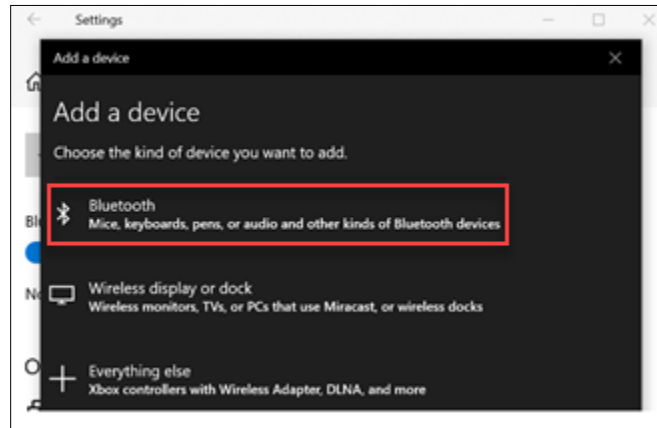

Figure 14: Select Bluetooth
8. Select **Bluetooth** from the *Add a device* screen (see **Figure 14**).